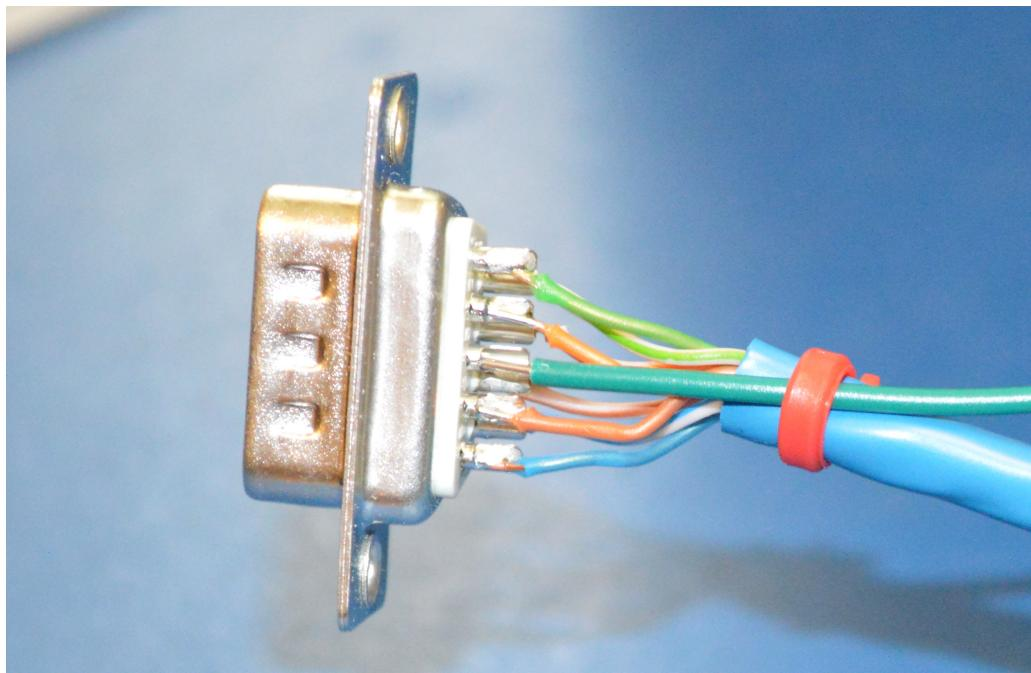

Figure 2.13: LED Panel Connector with Ground Wire
You can choose whatever pinout you want for the connectors, however it helps if there is some reason and consistency behind it. What I have done is to look at the connector from the back with the wide side up and assign the pins in the same order as the LEDs or switches, with the very middle pin assigned to ground (as shown in Figure 2.13). That is, the left-most pin corresponds to the left-most LED or switch, and so on.
- Since CAT-5 cables are only 8 conductor, a separate ground/return wire needs to be added. As a note of caution, I find that the orange and brown pairs are difficult to distinguish. Be careful, otherwise you may wind up having to resolder the connector. See Figure 2.13.